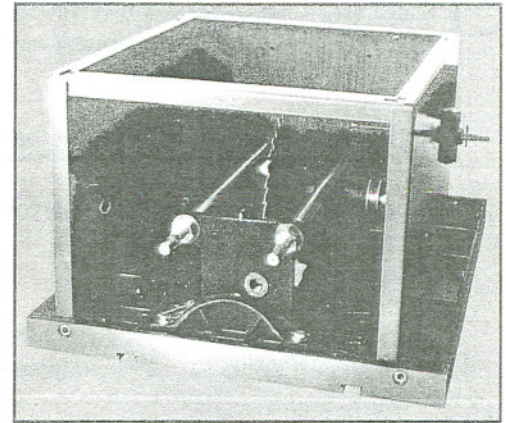

Fig. 1
1. Finish removing all contents from the shipping carton. Keep saw table upside down and place on a two-by-four or similar piece of wood under the rear of the saw. (Fig. 1) This will help when picking up the table again. Do not discard carton or packing material until saw is assembled and is running satisfactorily.